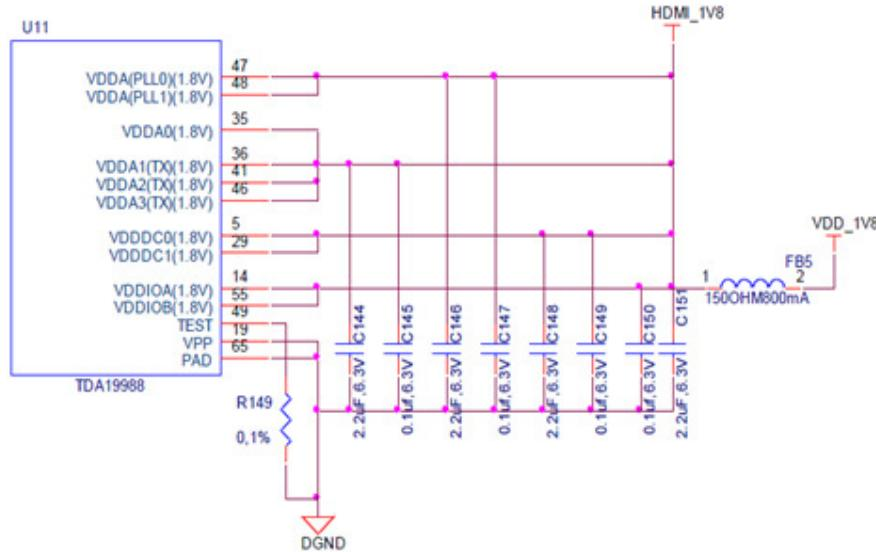

Figure 46      HDMI Power Connections
**Figure 46** shows the power connections to the **TDA19988** device. All voltage rails for the device are at 1.8V. A filter is provided to minimize any noise from the 1.8V rail getting back into the device.